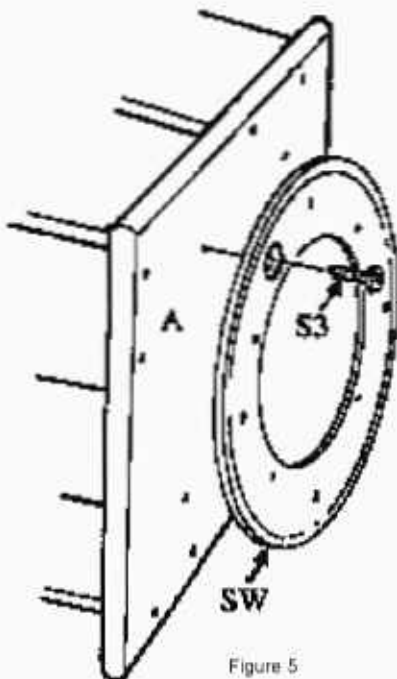

Figure 5
Align the holes in the base panel with the holes in the swivel "SW" (Figure 5). Note: the inner rim of the swivel has three sets of pilot holes, small, medium and large. Please use the large pilot holes of the inner rim. Screw in (1) screw "S3" at a time while rotating the steel ring so as to gain access to each hole. Use all (4) screws "S3".